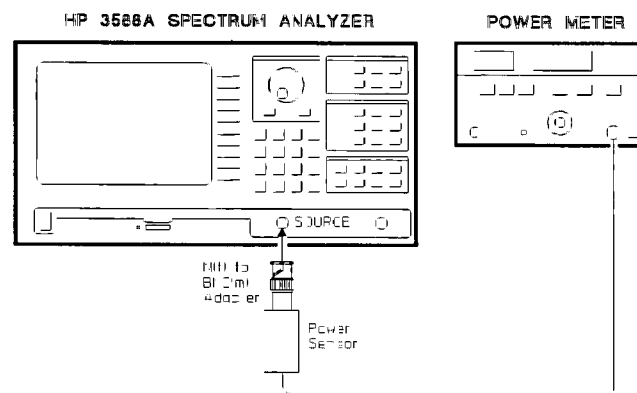

Figure 3-7. Source Response Setup for High Frequencies
4. Connect the test equipment as shown in figure 3-7.